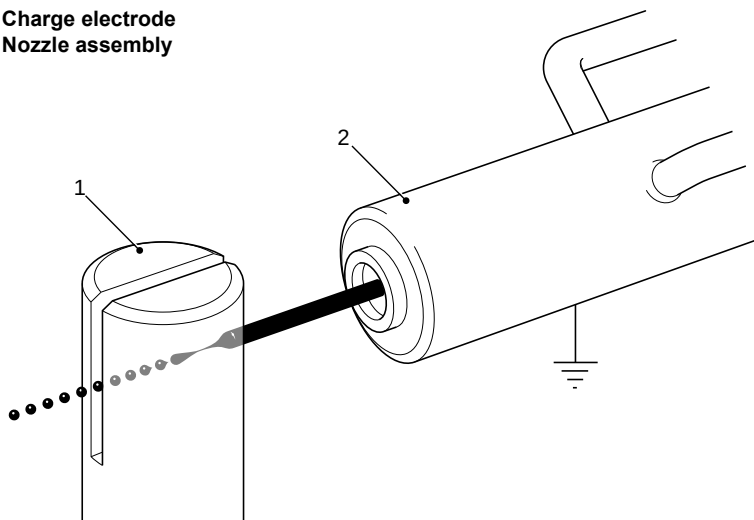

Figure 6-21. Charge Electrode
The charge electrode (Item 1 in Figure 6-21) is positioned at the break up point of the ink stream and extends for several drops either side of it. This allows a tolerance for break up position and shields the ink stream from the influence of the other electrostatic fields. The distance between the nozzle assembly (2) and the charge electrode is 2 mm.